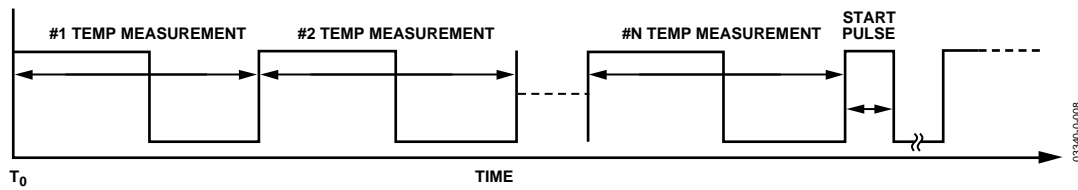

Figure 28. Daisy-Chain Signal at Input to the Microcontroller
Before the start pulse reaches a TMP05/TMP06 part in the daisy chain, the device acts as a buffer for the previous temperature measurement signals. Each part monitors the PWM signal for the start pulse from the previous part. Once the part detects the start pulse, it initiates a conversion and inserts the result at the end of the daisy-chain PWM signal. It then inserts a start pulse for the next part in the link. The final signal input to the microcontroller should look like Figure 28. The input signal on Pin 2 (IN) of the first daisy-chain device must remain low until the last device has output its start pulse.